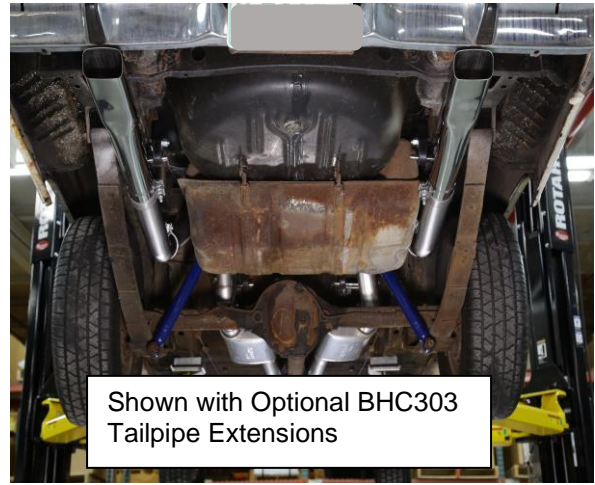

Figure 11
20. Install a clamp onto the expanded end of the turn down tailpipe extension or optional BHC303 stainless steel tip. Install the left and right tip extensions on to the adapter pipe and tighten the clamp to allow for adjustment (**Figure 11**).